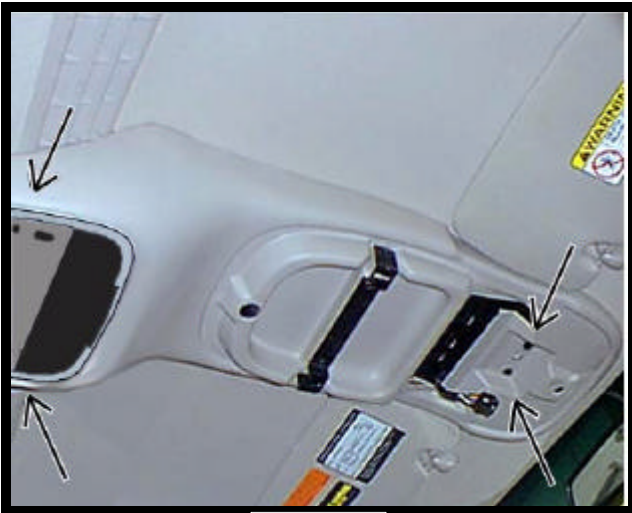

FIGURE 7
- Carefully position console against headliner. Make sure O.E.M. wire harness routes through opening in console. Loosely install using (2) 6-32 X 3/4" screws (item 4 pg 2) through the smaller holes in bracket on console into threaded clips on mounting bracket. Using an awl or similar tool, align the front mounting holes in console with holes in bracket. Loosely secure using (2) two # 8 x 3/4" O.E.M. screws previously removed. See Fig. 7. Make sure console alignment is straight the tighten all screws. **Note: Do not overtighten screws.**